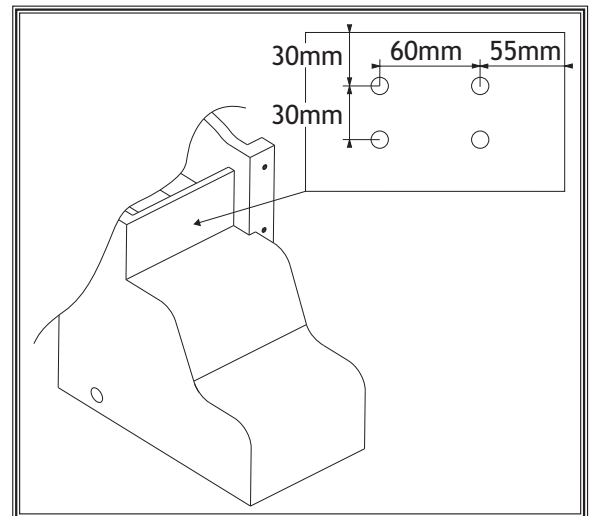

Figure 2. Location and hole pattern for laser guide arm attachment.
2. Drill and tap four holes into the front of the Model W1803 headstock to accept M8-1.25 threads (see **Figure 2**).
3. Use the threaded holes created in **Step 1** to secure the steel arm to the headstock with the (4) M8-1.25 x 25 cap screws, flat washers, and lock washers.